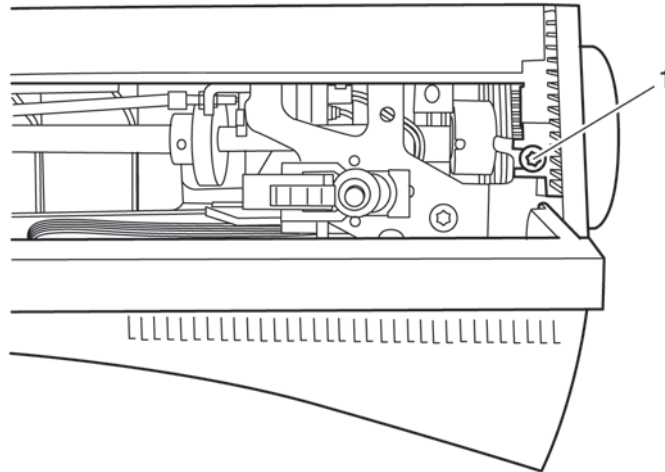

Fig. 38
- Loosen screw 1 of the standard cover (fig 38).